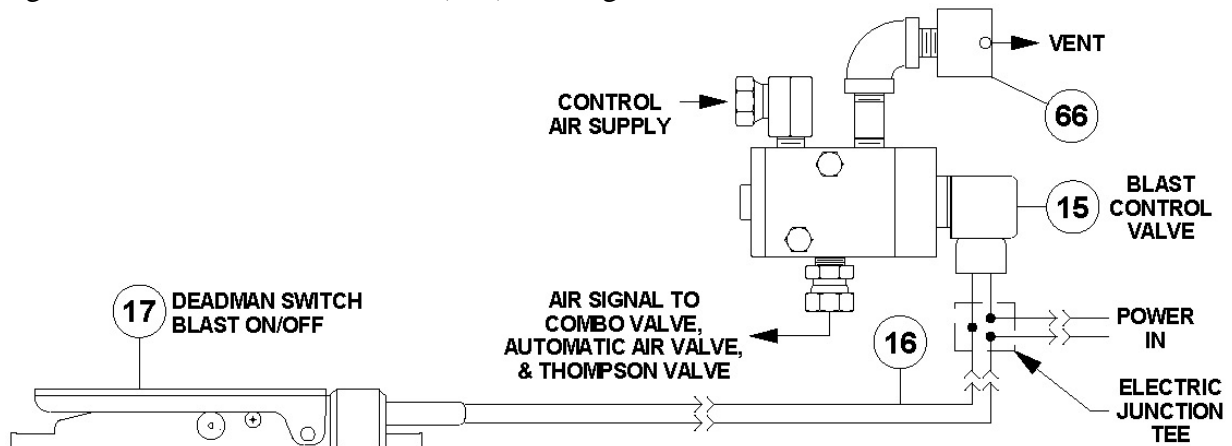

Figure 5.6 – Electric Blast Control System
5.12.2. Electric Deadman System: When the electric deadman lever is pressed down it closes the electric circuit and supplies electric current to the control valve (#15). The control valve opens and sends air signals to the automatic air valve (#12) and the Thompson Valve® (#14). When the deadman lever is released the electric circuit is cut off closing the control valve. The signal air vents from the breather (#66). See Figure 5.6.